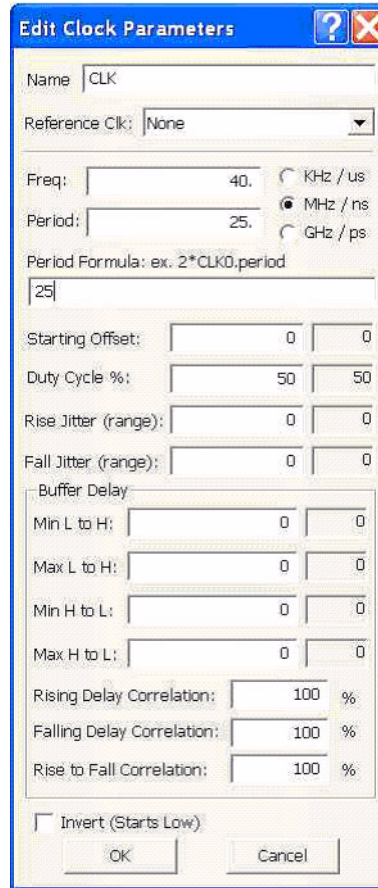

Figure 7-16. Edit Clock Parameters in WaveFormer Lite
2. Double-click any clock segment to edit the clock parameters (Figure 7-16). Set a frequency of 40 MHz.